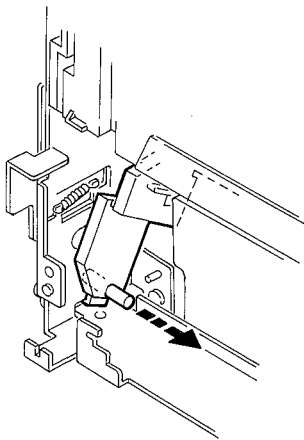

Fig. 5-13
5. While bending the one each on the right and left sides inward, remove these sections from the door holder holes. From the front panel, remove the cassette door while pulling it out toward the front side (See Figs. 5-13 and 14).